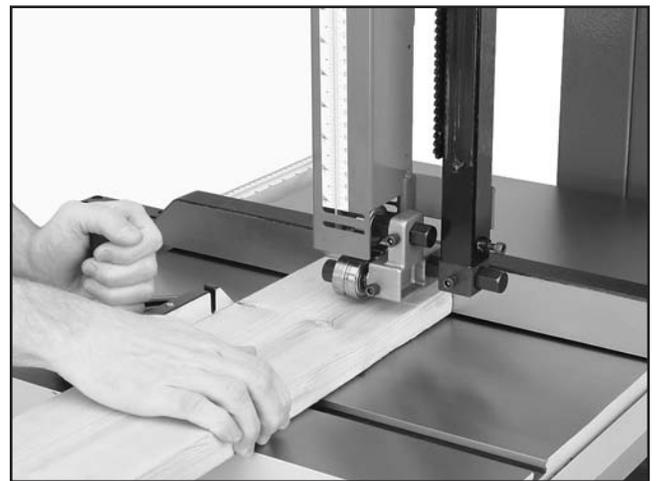

Figure 40. Crosscutting with miter gauge.
5. After all safety precautions have been met, turn the bandsaw **ON**. Slowly feed the workpiece into the blade and continue the cut until the blade is all the way through the workpiece. **Figure 40** shows a typical crosscutting operation.